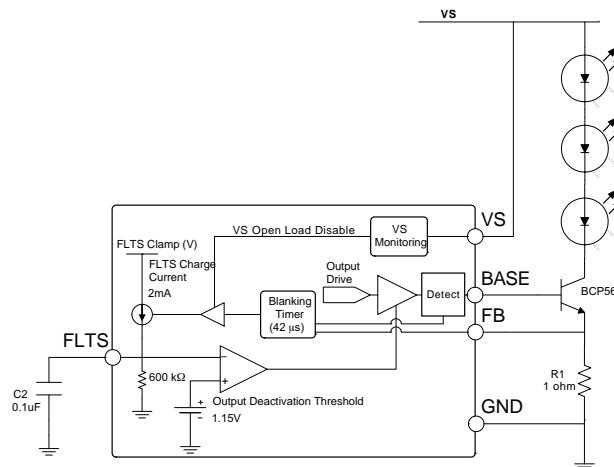

Figure 8. Open Load Detection Circuitry
The timing for open load detection is programmed using the FLTS pin. The NCV7691 device regulates a 152 mV reference point (Figure 8 on the feedback pin (FB)). When the voltage decreases (half of the FB Regulation Voltage) or the base current reaches the internal 25 mA (typ) limit for 42 μs the timer associated with the FLTS pin starts by charging the capacitor with a 2 mA current source. When the voltage on FLTS exceeds the output Deactivation Threshold (1.15 V (typ)), the BASE pin is pulled low and is held low by an internal pulldown resistor.